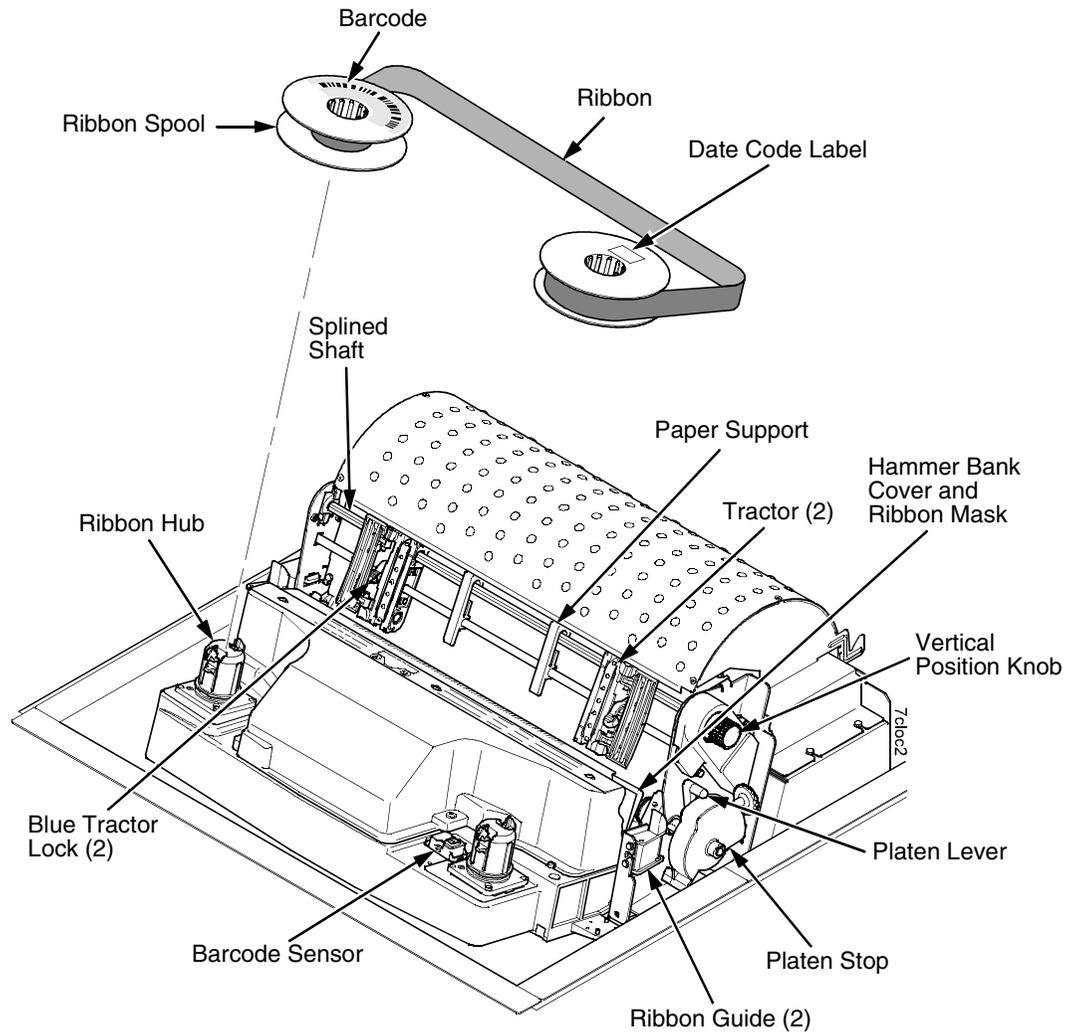

Figure 4. Printer Component Locations
1. Raise the printer cover. Raise the platen lever as far as it will go. (See Figure 4 on page 24 for the location of the lever.)
6. Pull the new paper above and behind the ribbon mask, but in front of the existing paper. See Figure 4 on page 24 for the ribbon mask location. If necessary, gently press the existing paper back.